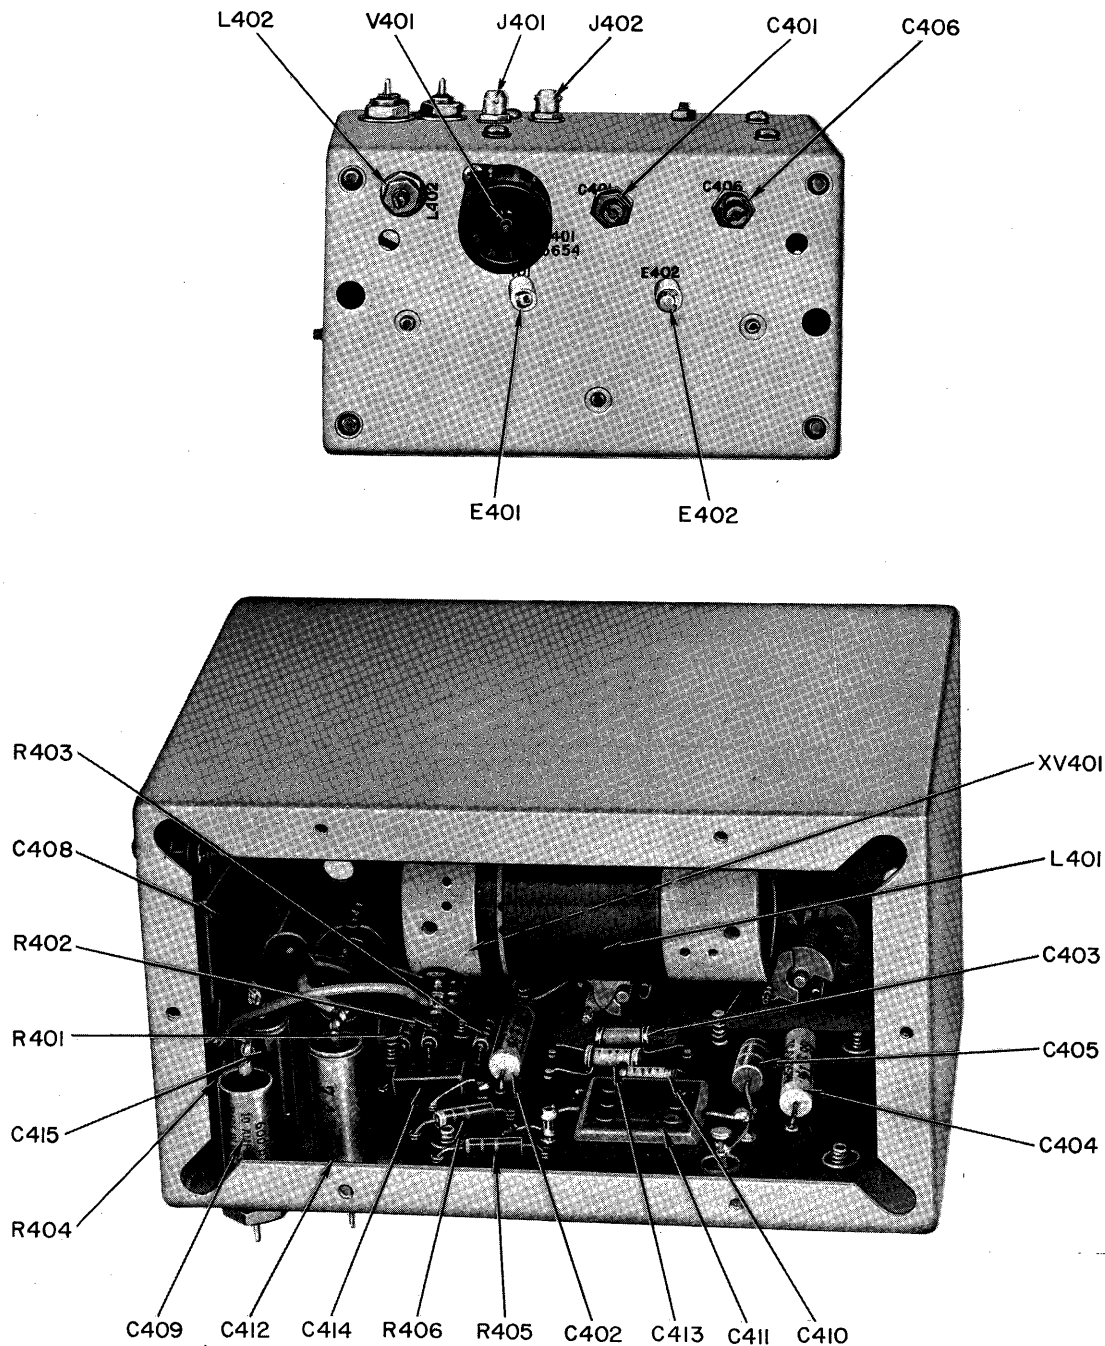

Figure 5-42. Interpolation Oscillator, Location of Parts
*b.* ACCESS.—The interpolation oscillator is located in the lower converter deck. For access to the top, index the upper deck; for access to the bottom, index the entire drawer. Figure 5-42 shows the location of parts.